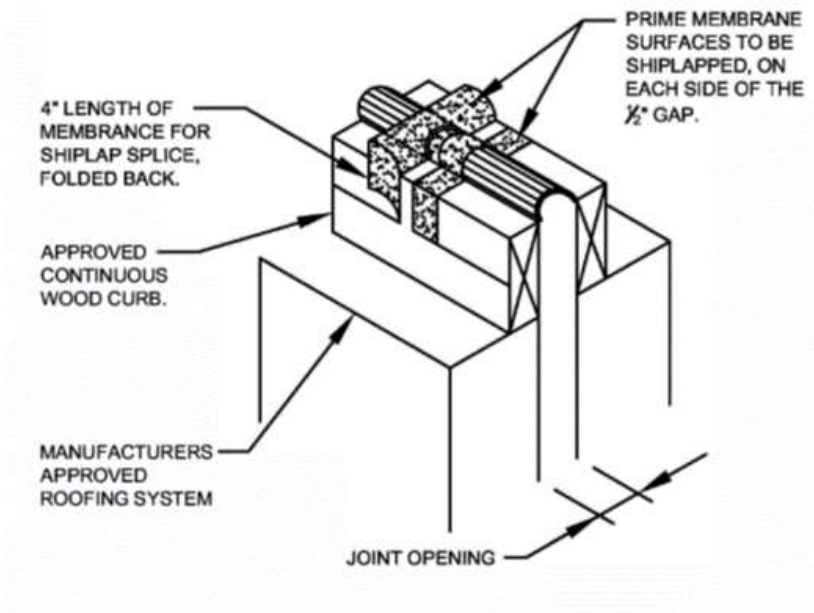

Figure 3
3. After all sections of style ewcf are installed, splices can be completed. Using provided brush & primer, prime both sides bellows to be shiplapped. Allow primer to dry to tack free. Type at each splice location. **See Figure 3**